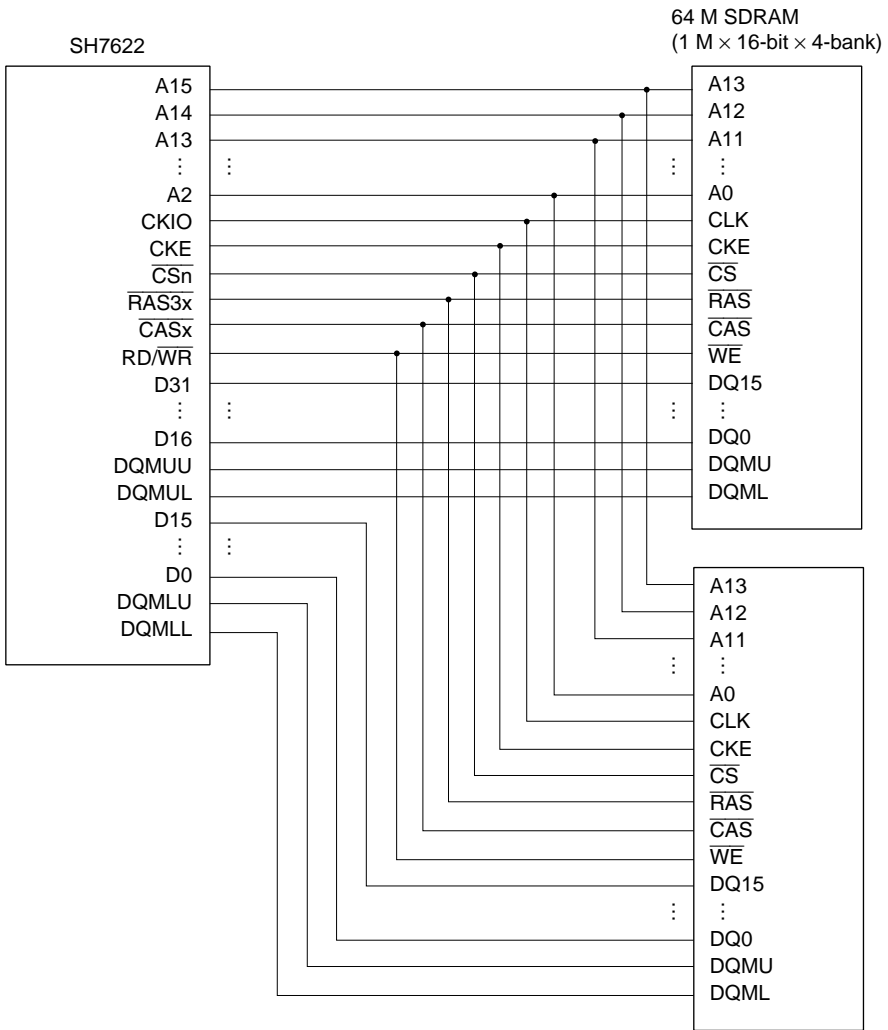

Figure 13.12 Example of 64-Mbit Synchronous DRAM Connection (32-Bit Bus Width)
Figure 13.12 shows an example of the connection of two $4M \times 16$ -bit synchronous DRAMs, and figures 13.13 (1) and 13.13 (2) show examples of the connection of one $2M \times 32$ -bit synchronous DRAM, and one $4M \times 16$ -bit synchronous DRAM, respectively.